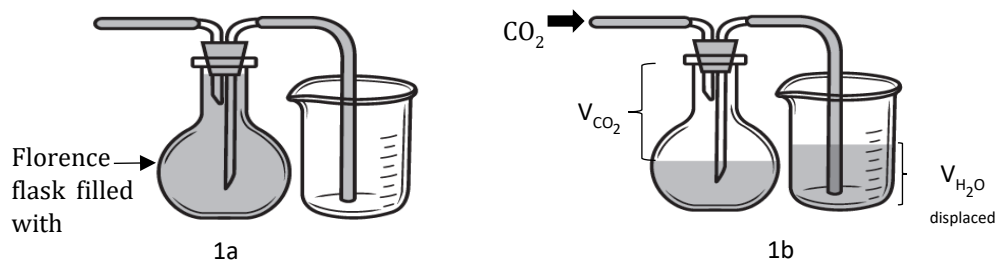

Figure 1. Florence flask used for gas collection.
- Determining the **volume** of CO_2 collected: If the CO_2 is collected in a flask containing water, the CO_2 will displace water equal to its volume (See Figure 1).